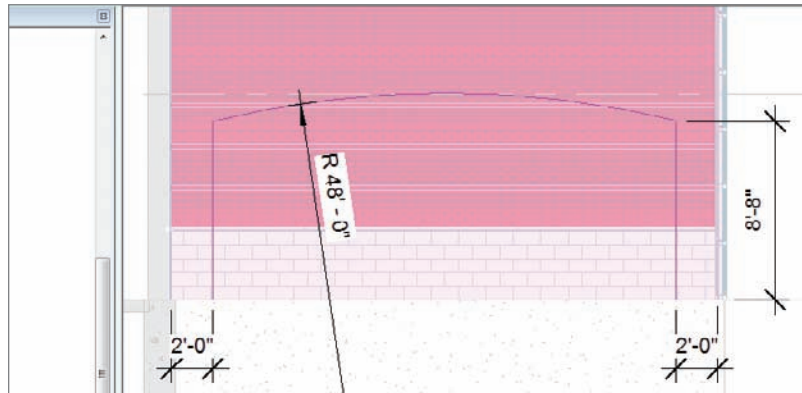

FIGURE 17.30 The arched opening
9. Sketch an opening, as shown in Figure 17.30.